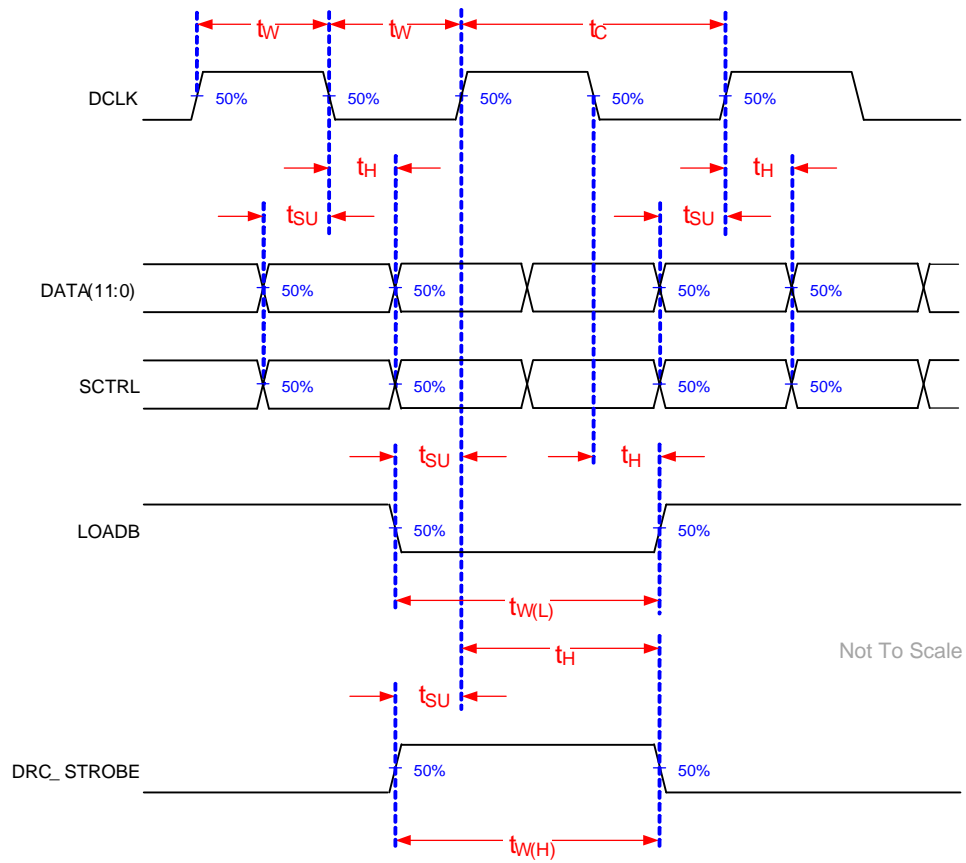
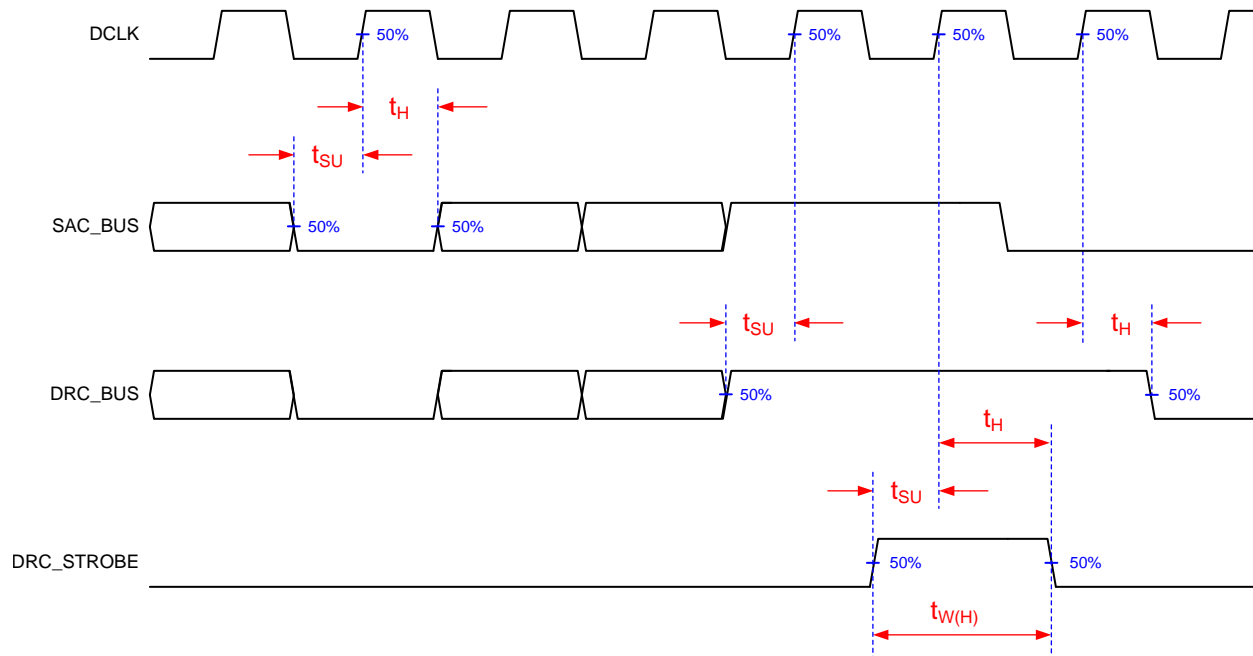

Figure 2. Switching Parameters 1
Figure 3. Switching Parameters 2
(1) Refer to Figure 2 and Figure 3.